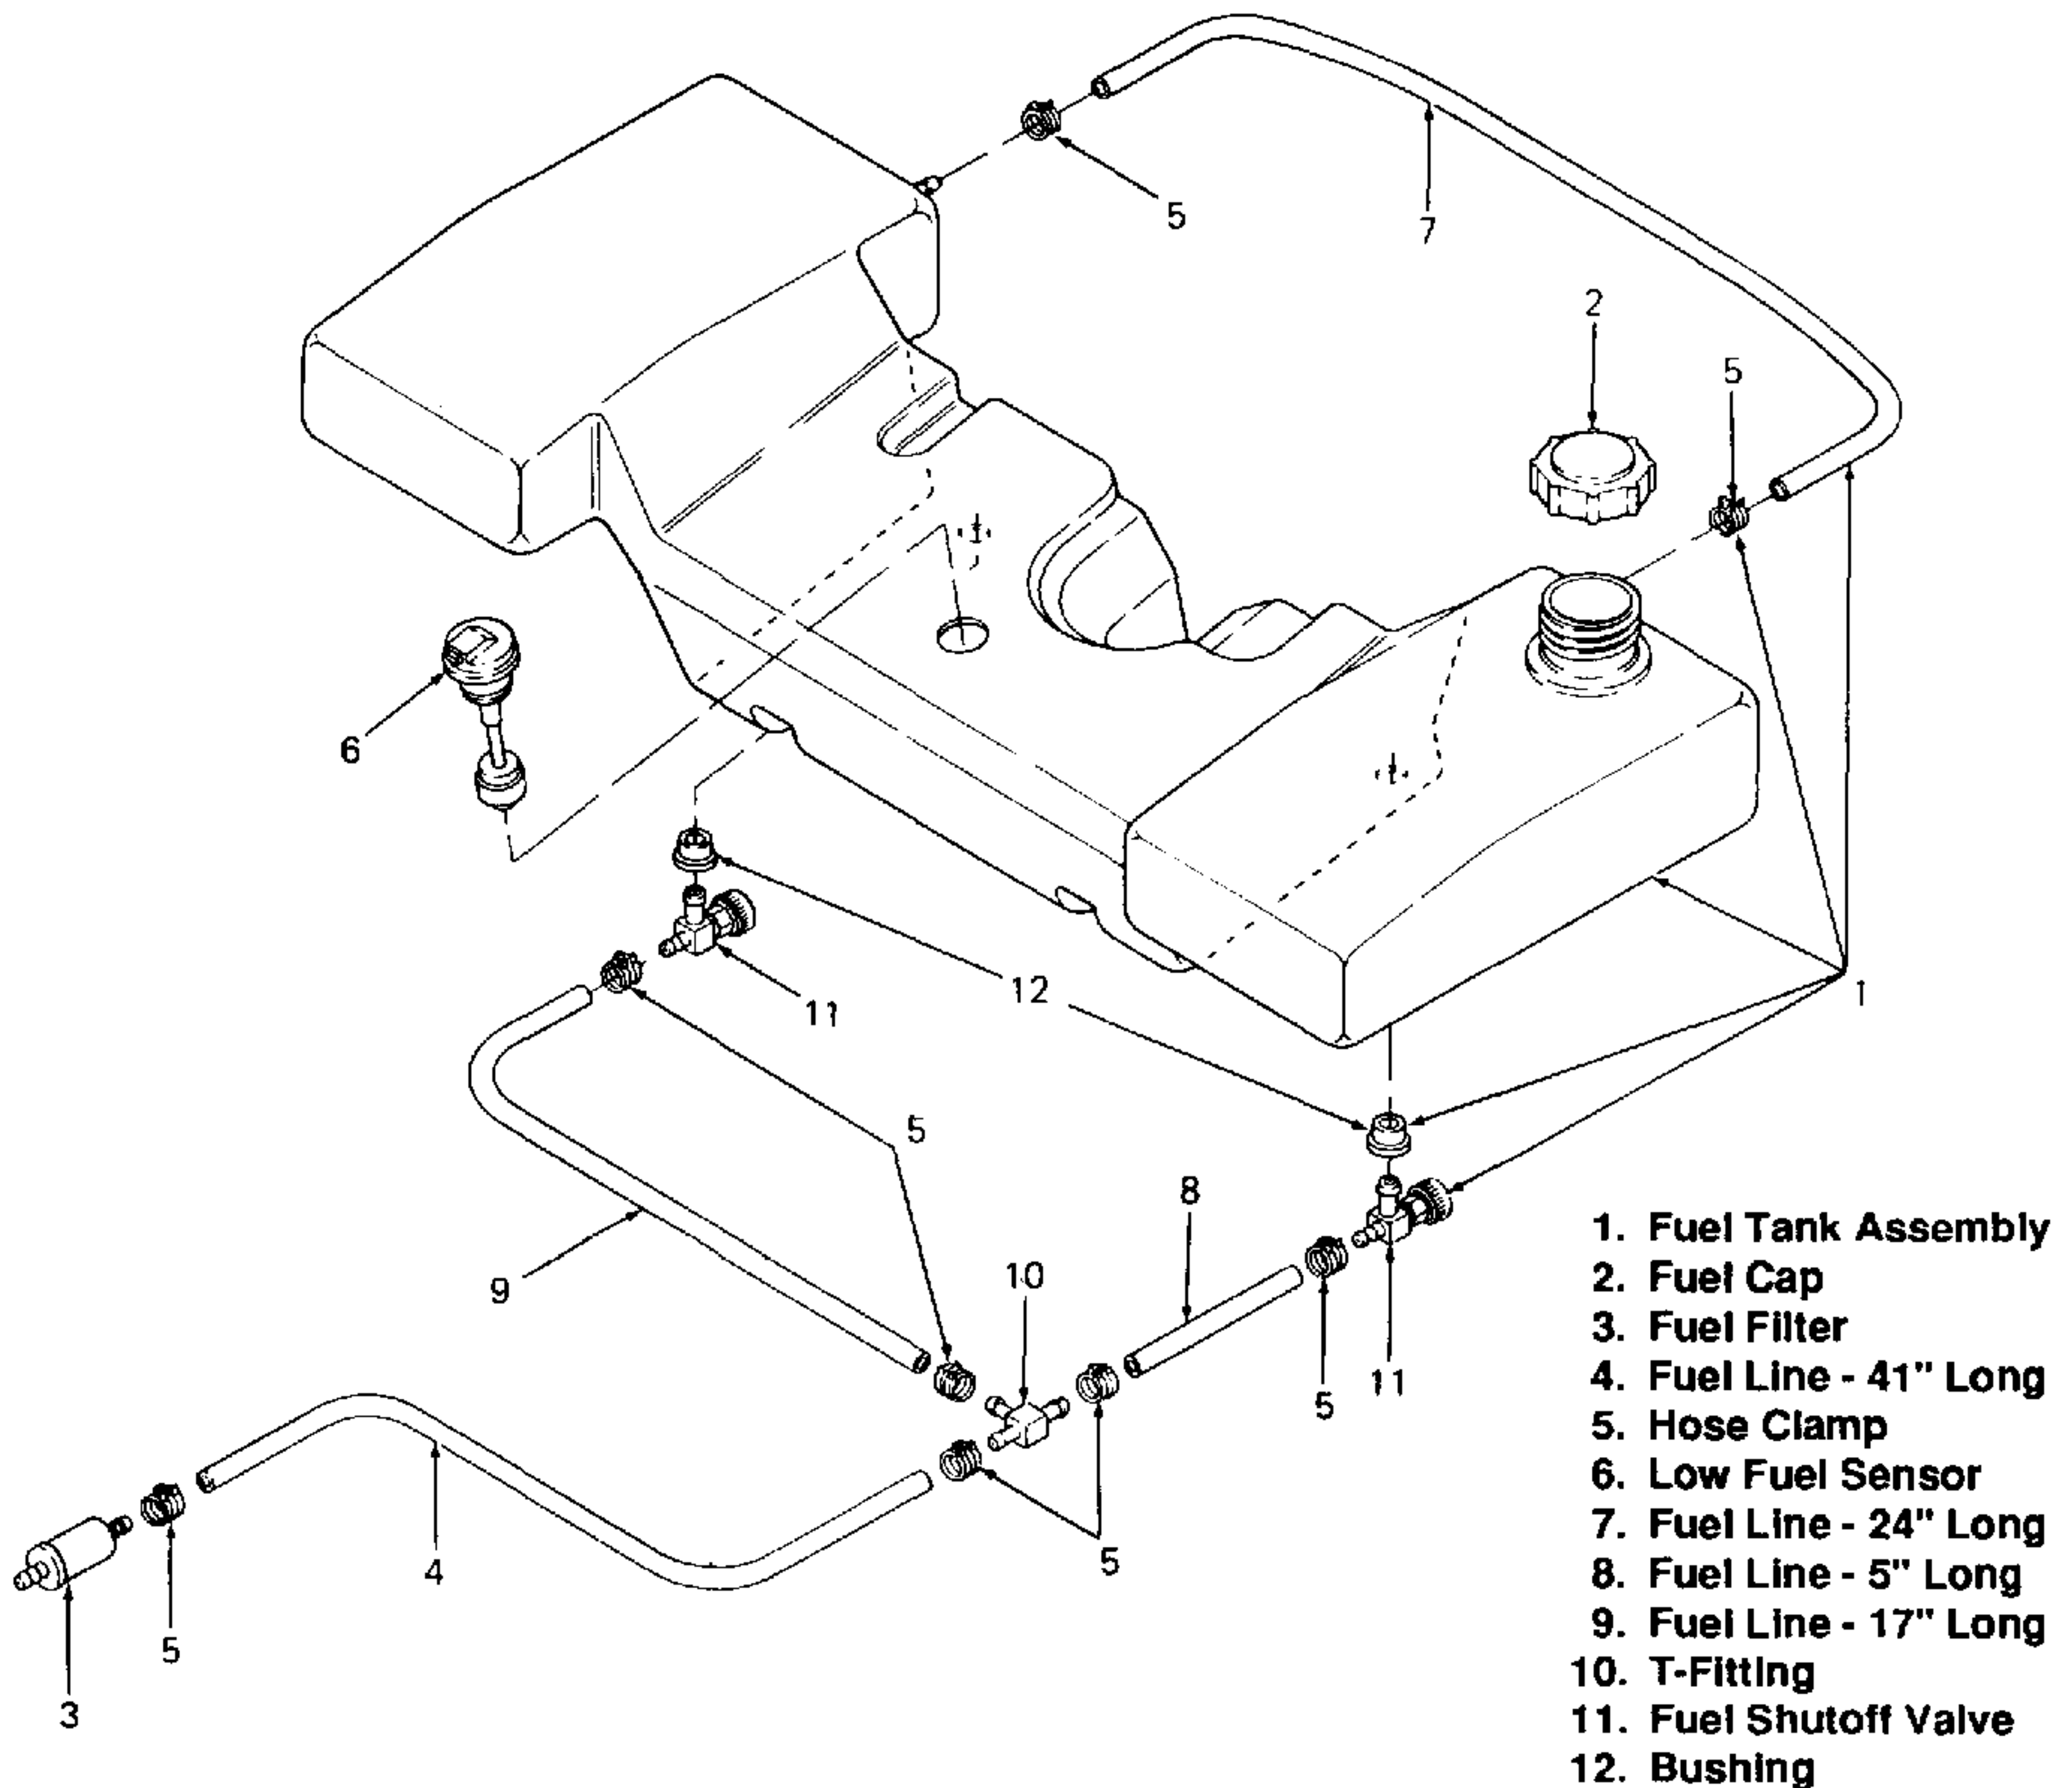

Figure 5-66. Fuel Tank (Models 1340, 1535, 1541, 1860, 1862, 1882, 2082 and 2182).
2. Remove fuel cap (2, Figure 5-66) and drain all fuel from fuel tank assembly (1). Close fuel shut-off valves (11).
1. Place fuel tank assembly (1, Figure 5-66) on tractor.
3. Connect electrical lead to low fuel sensor (6).
4. Install fuel line (4) to T-fitting (10) and fuel filter (3) with hose clamp (5).
5. Connect fuel filter (3) to engine.
7. Refill fuel tank (1) until fuel level is above sensor (6). Install fuel cap (2).
8. Open fuel shutoff valves (11) and check for leaks including area around sensor (6).